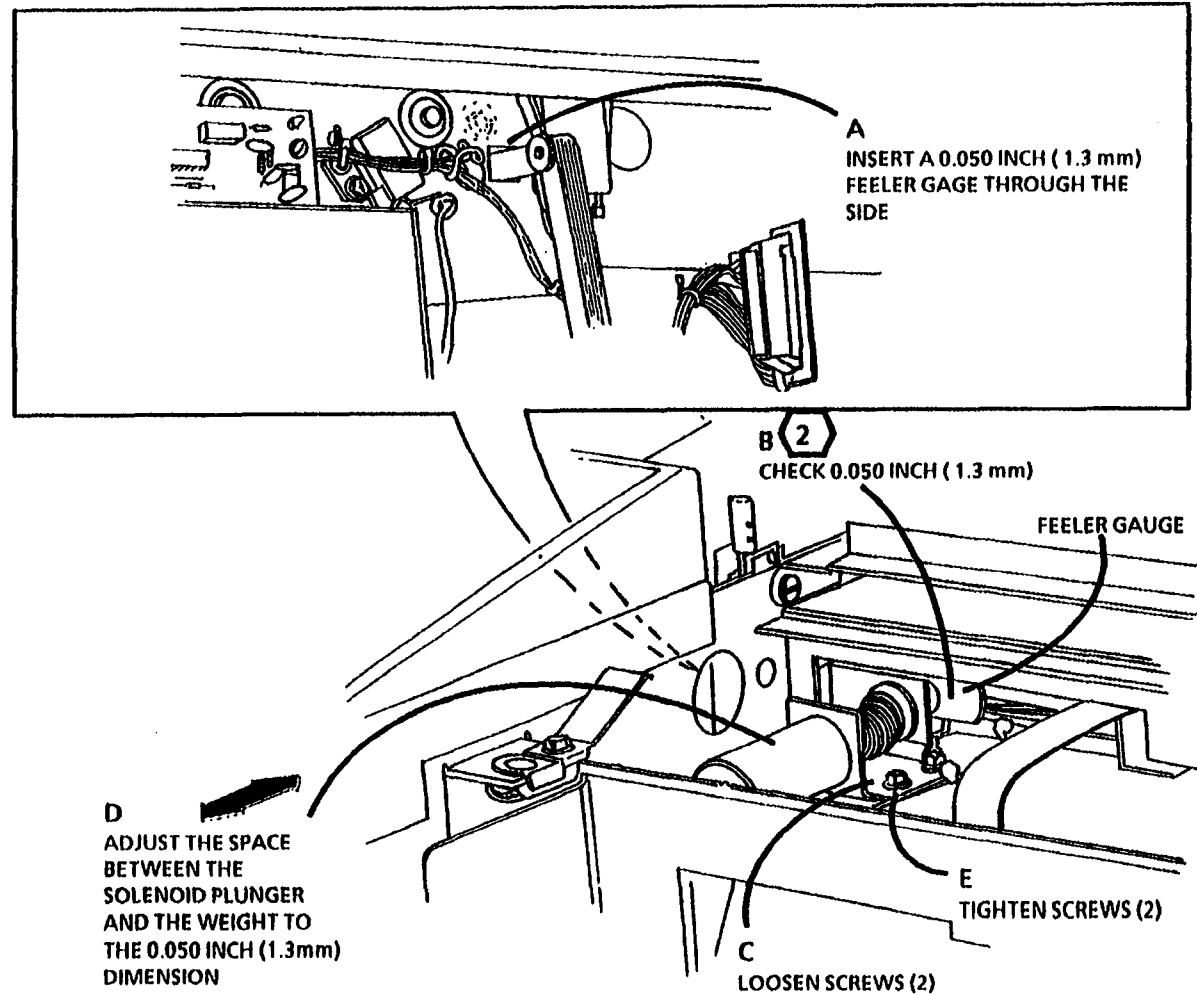

Figure 2. Adjust the Solenoid
5. (Figure 2): Check/Adjust the Solenoid.